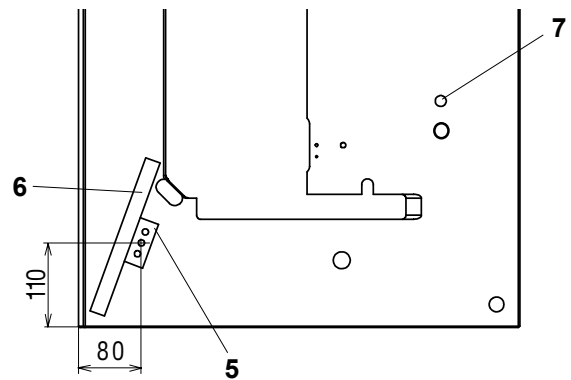

Fig. 8
5.1.1 Mounting and placing of the machine head on the stand (Fig. 8)
Remove the supporting pin from the table top (Fig. 8, pos. 7), insert the cover caps (7) into the holes.